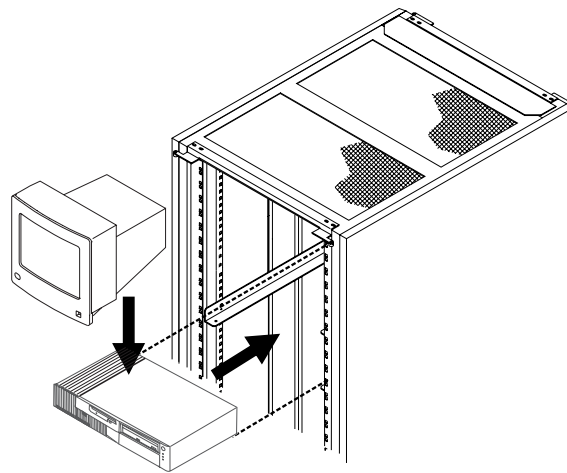

Figure 1-8. NAS and Display Installation in a 37U Rack
3. ____ See Figure 1-8 on page 1-7 and install the NAS on the brackets.